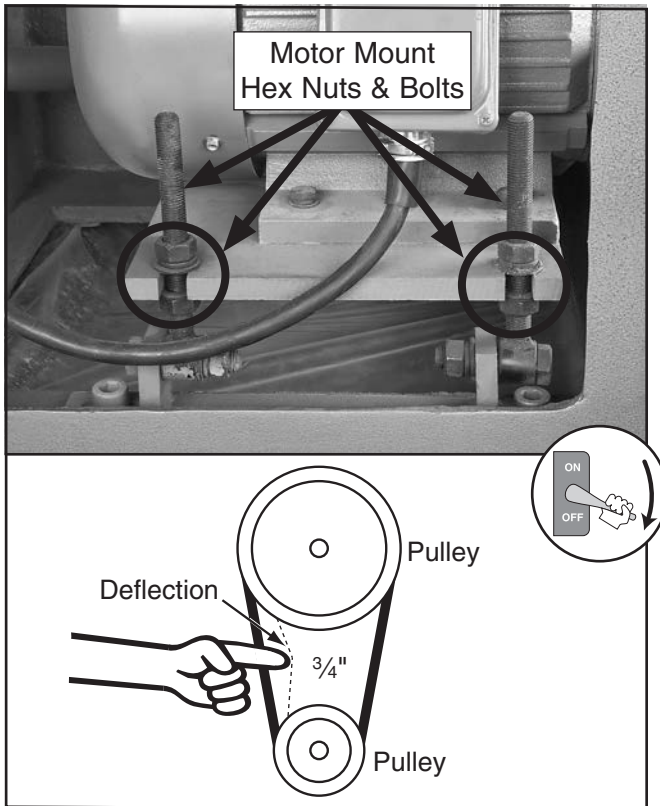

Figure 135. Adjusting V-belt tension.
- Adjust the hex nuts on the motor mount bolts (see **Figure 135**) until there is approximately $\frac{3}{4}$ " deflection in each V-belt when it is pushed with moderate pressure.
- Adjust the hex nuts on the motor mount bolts (see **Figure 135** to raise the motor, then remove the V-belts.